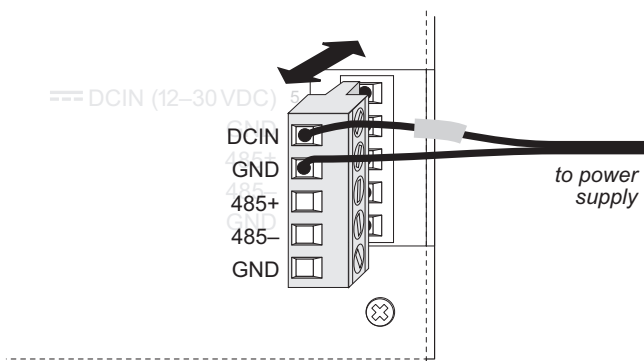

Figure 2-1. OP7100 Power Supply Connections
1. Remove the green power connector shown in Figure 2-1 from the back of the OP7100.
2. Attach the bare leads from the power supply to the terminals on the power connector as shown in Figure 2-1.
3. Plug the connector back into the power connection header at the back of the OP7100. Watch the polarity of the connection so that the banded wire from the power supply goes to DCIN as shown in Figure 2-1.